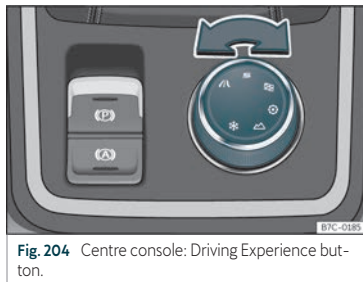

Fig. 204 Centre console: Driving Experience button.
- Turn the Driving Experience button until the required profile lights up on the Easy Connect system display as well as on the Driving Experience button >>> **Fig. 204**.